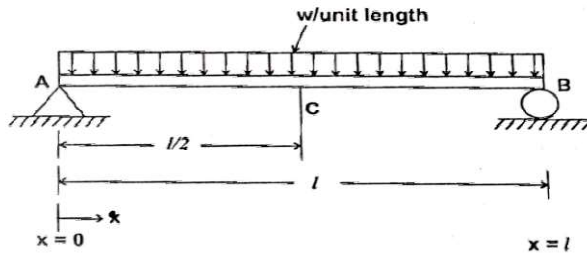

Figure-5.
16. a) Determine the deflection at the centre of a simply supported beam subjected to uniformly distributed load over the entire span of length 'l' as shown in figure-5. Use Rayleigh Ritz method. 15 K3 CO4